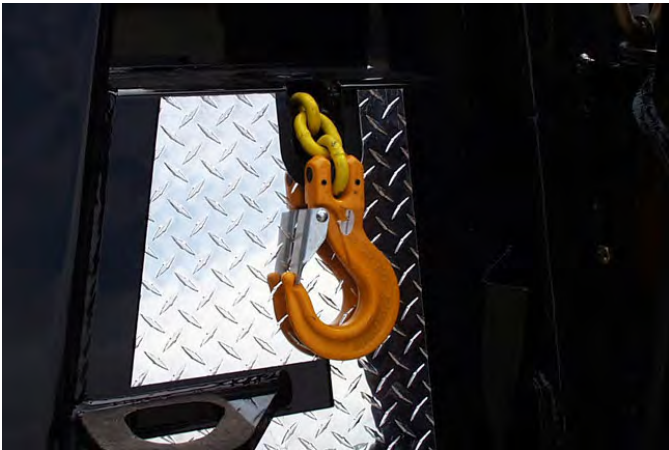

FIGURE 3.6
- 3.10** Safety Chains are located at the tailboard of the subframe. See Figure 3.6.